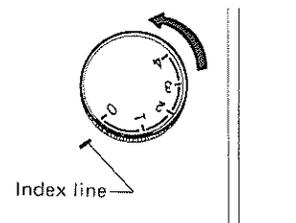

Fig. 5
1. Set the ANTI-SKATE knob to "0" (Fig. 5).